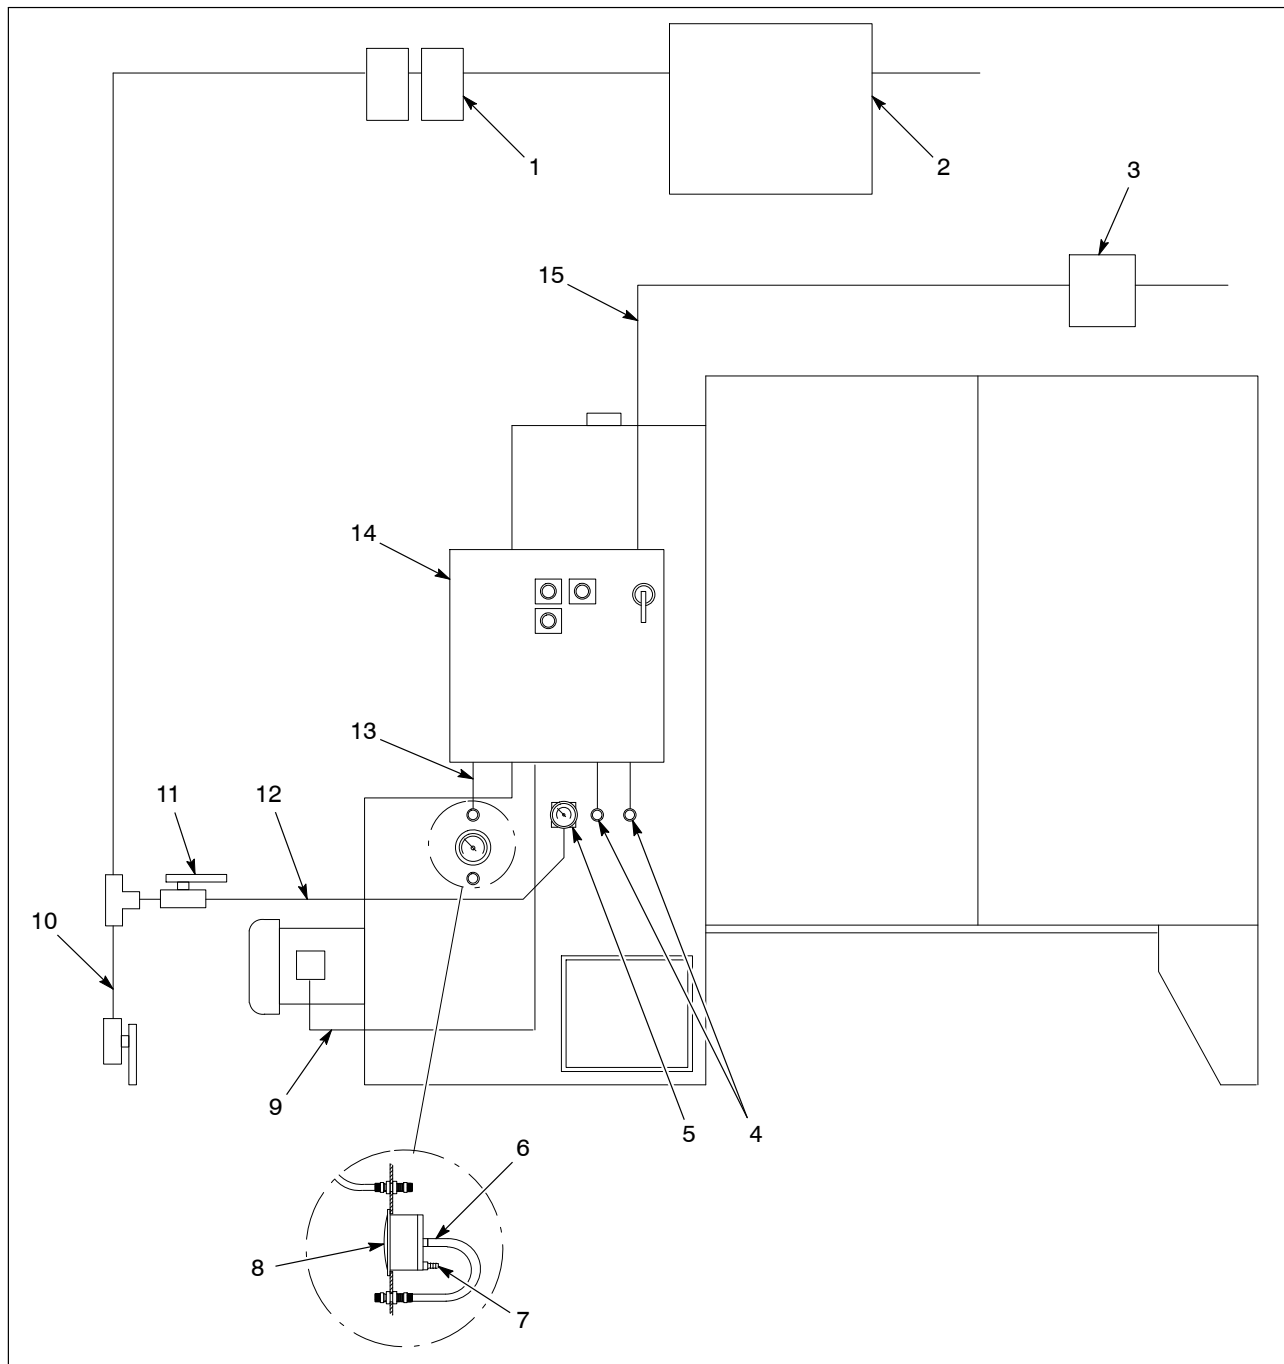

Figure 3-5 Electrical and Pneumatic Connections
1. See Figure 3-5. Install a fused service disconnect and lockout switch (3) where the service line to the Econo-Coat Series II system connects to the plant electrical system.
2. Route rigid or flexible armored conduit and wiring from the disconnect to a knockout in the top right side of the system electrical panel (14).
1. See Figure 3-5. Install a manual shutoff valve (11) in the system air supply line.
2. Connect $\frac{3}{4}$ -in. air tubing (12) from the shutoff valve to the system air supply regulator (5).
3. Check the pilot air tubing (4) and the pressure sensing tubing connections. The pilot air tubing connects the two solenoid valves on the underside of the system electrical panel to the pulse valves. The pressure sensing tubing (13) connects the differential pressure switch in the system electrical panel to the fitting above the differential pressure gauge (8).